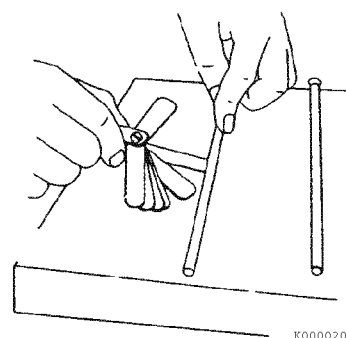

Figure 6-11
3. Use a feeler gauge to measure the gap (**Figure 6-11**). See *Push Rod on page 6-5 for the service limit*.